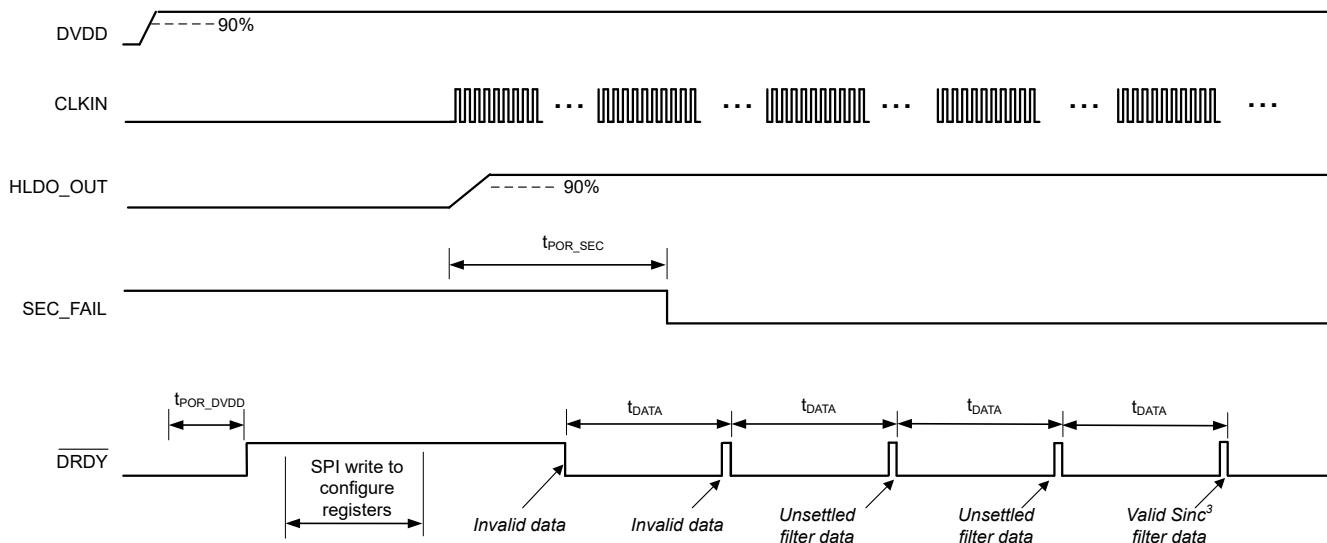
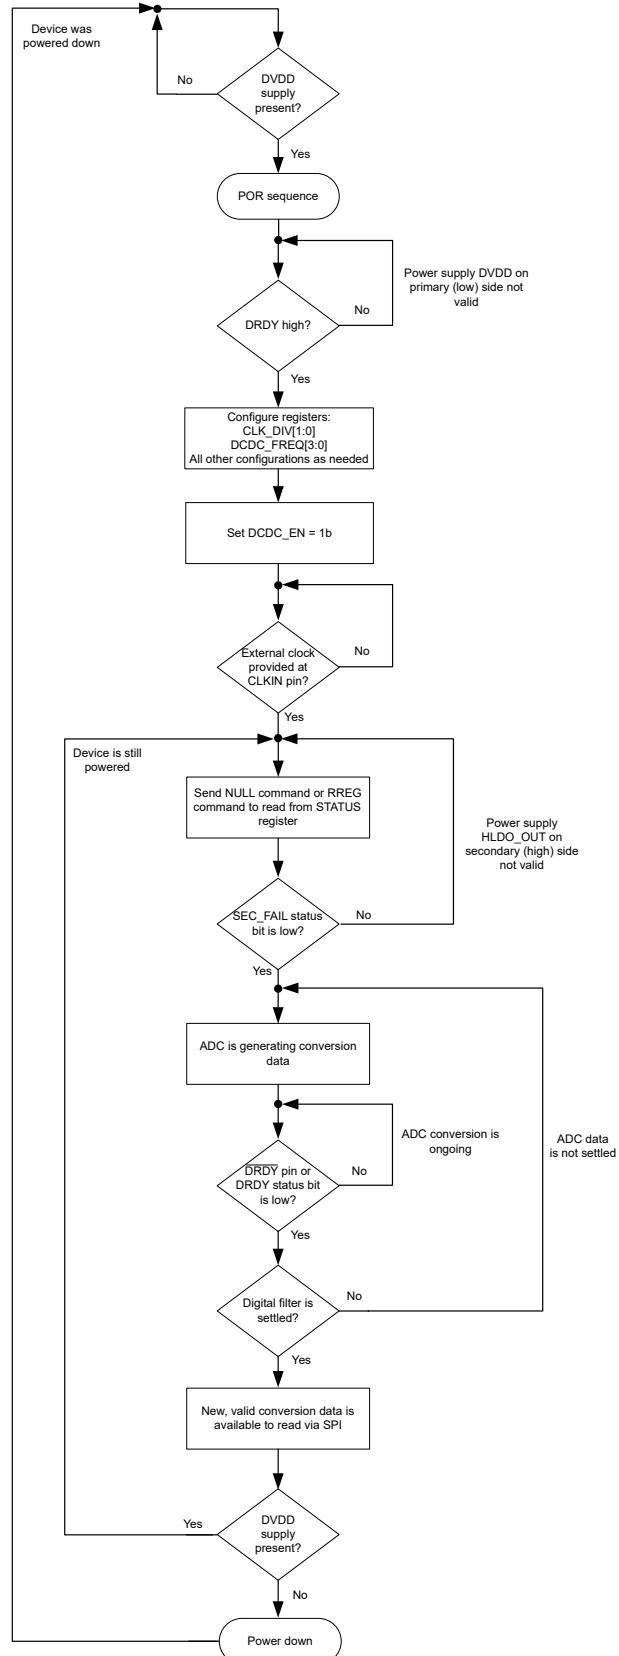

図 8-16. Start-Up Behavior at Power-Up and Settling Times, OSR = 1024
図 8-17. Flow Diagram for Start-Up Procedure at Power-Up
A recommended procedure for powering up the AMC130M02 is described in this section. 图 8-16 depicts a timing diagram for the device behavior when this recommended sequence is used. 图 8-17 provides a flow diagram that displays the recommended sequence in a graphical form.
- The high-to-low transition of  $\overline{DRDY}$  indicates that new conversion data are available. As given in 図 8-16, ADC data are only valid if the SEC\_FAIL reads 0b during the conversion period. The first two conversion results shown in 図 8-16, represent invalid data.
- When the ADC generates valid data, the digital filter must settle, as described in the SINC3 and SINC3 + SINC1 Filter section. Two subsequent conversion results illustrated in 図 8-16 are unsettled (assuming OSR equals 1024), and the last conversion result shown provides valid and settled data.
In 図 8-16,  $t_{POR\_SEC}$  is the time from enabling the DC/DC converter to the first falling edge of the SEC\_FAIL bit, which indicates that the secondary power supply at the HLDO\_OUT pin is stable.  $t_{POR\_DVDD}$  is the time from DVDD supply at 90% to  $\overline{DRDY}$  first rising edge.